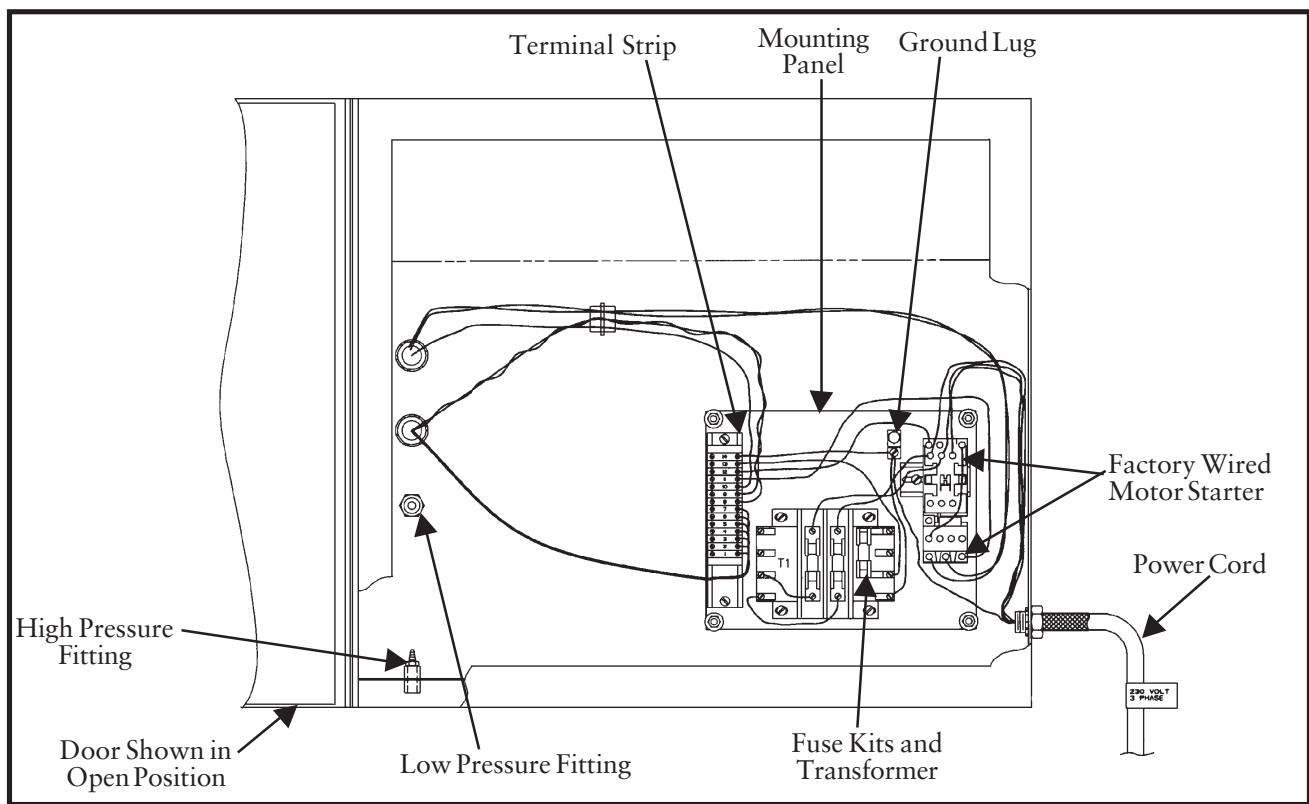

Figure 18
3. Pre-wired with the Checker board in a remote enclosure (see Figure 18 Pre-Wired with Checker Board in Remote Enclosure)